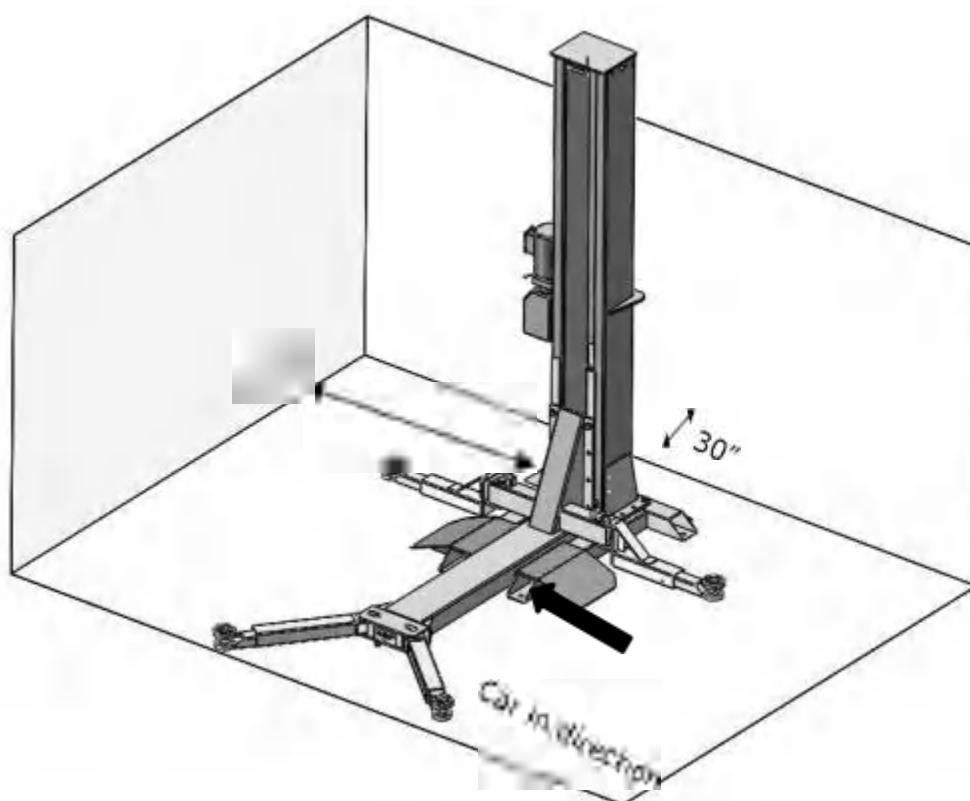

Fig.6
2. Installation space: Ensure there is enough space for the lift. Accurately measure the front, back, side and top mounting dimensions and refer to the below figure data (**See Fig.6**).